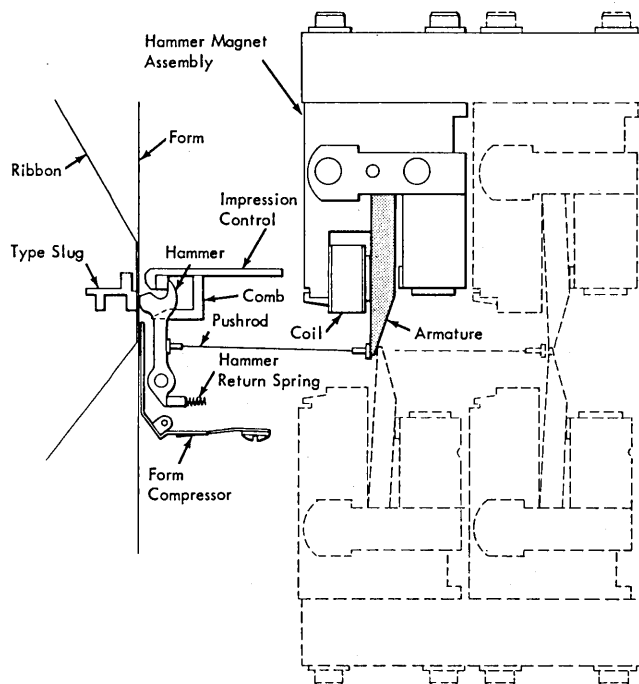

Figure 1-18. Print Position Components
8. Loosen armature and hammer magnet assembly screws one at a time and retighten the screws slightly (Figure 1-18).